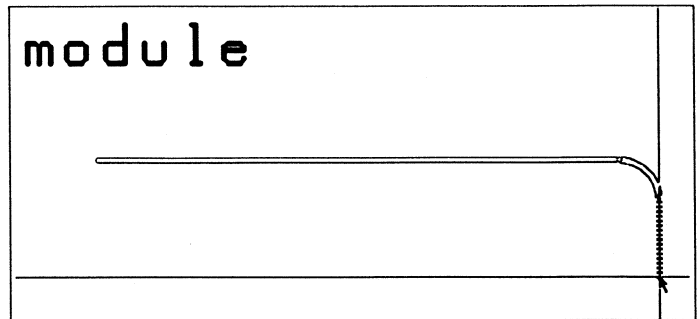

Figure 5-26. Drawing the outline with arc corners.
8. Select **Begin**, then draw the segment down to (0.7000", 0.1500"). The outline looks like figure 5-26.